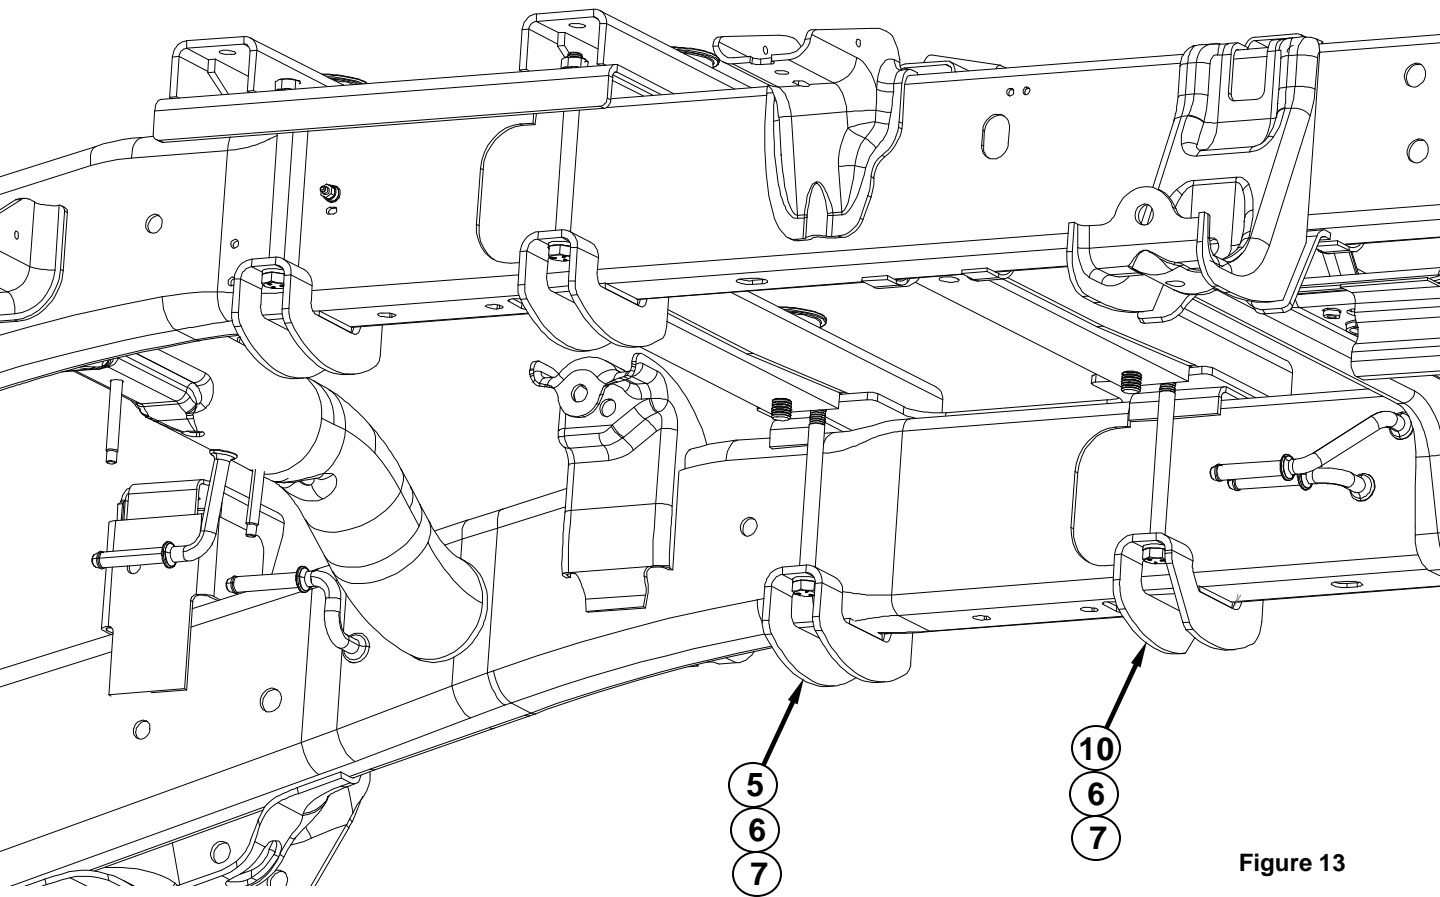

Figure 13
9. Repeat for other side of truck. (Figure 13).